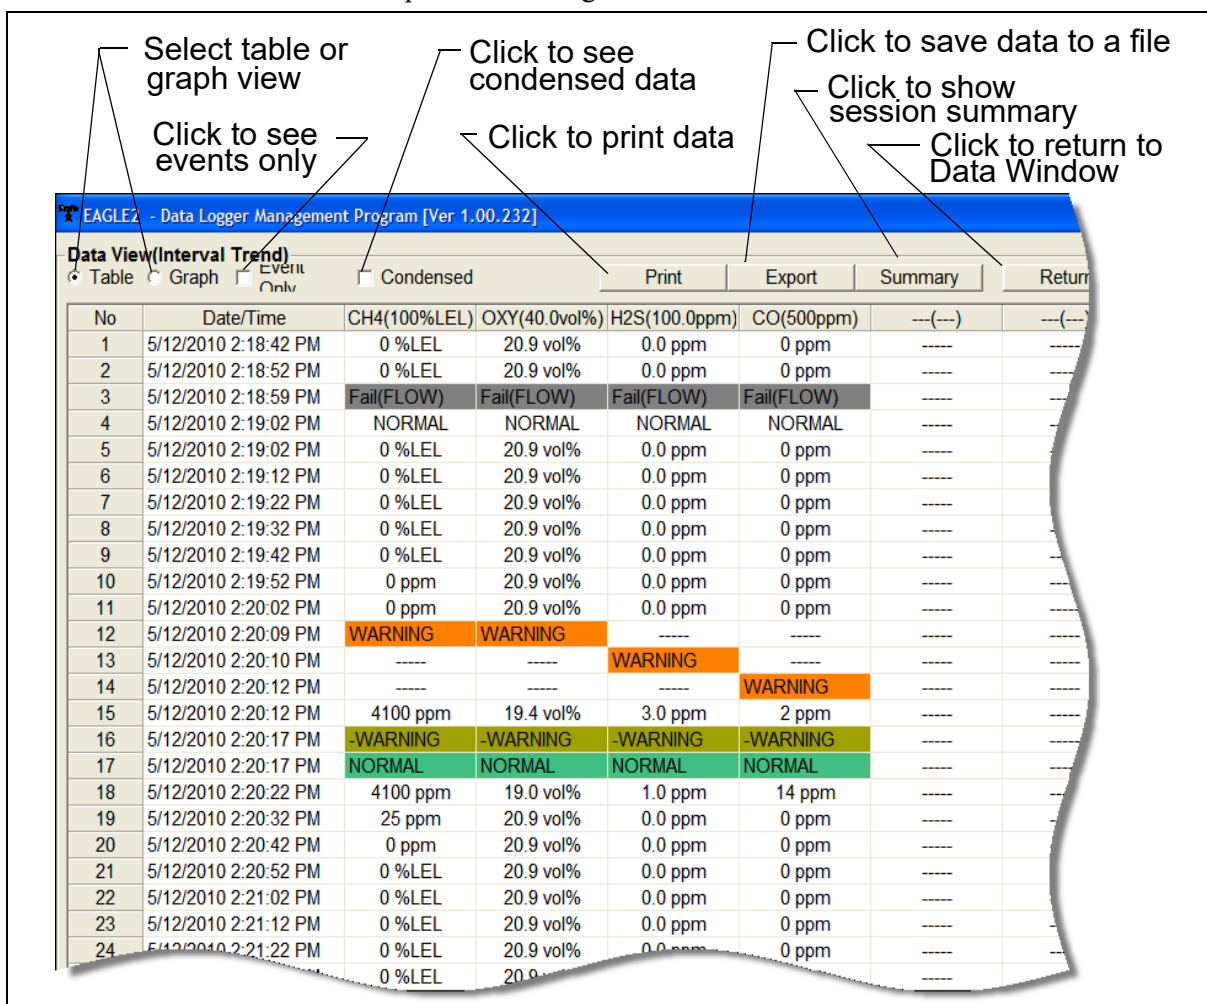

Figure 21: Interval Trend Data in Table Format
7. Interval trend data can be viewed in either table or graph format by selecting the Table or Graph selection buttons. The example below in Figure 21 is shown in table format.